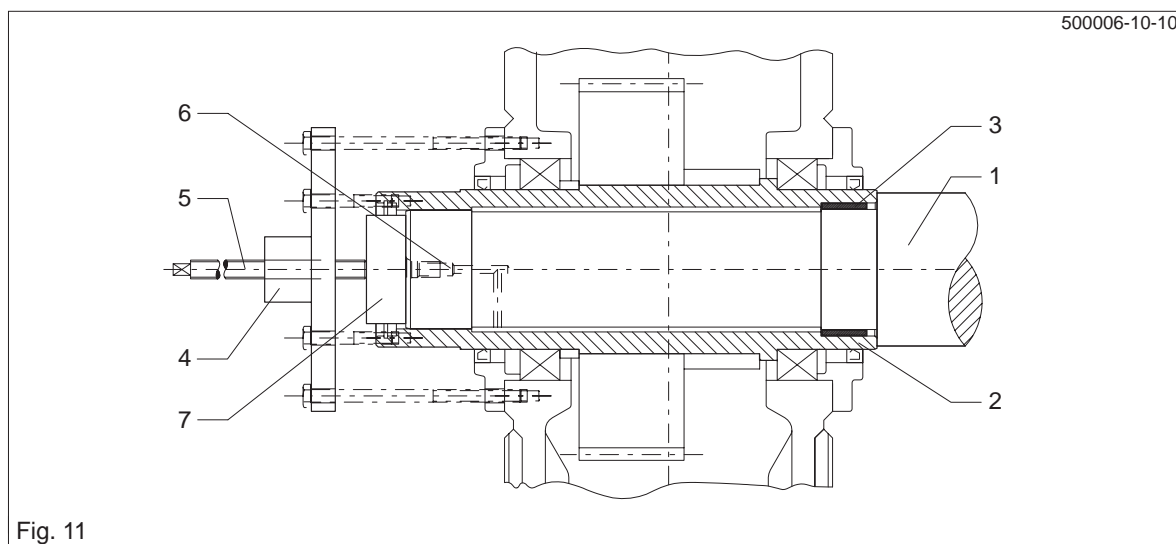

Fig. 11
- If frictional corrosion has occurred on the seating surfaces, inject rust-releasing or other agent (e.g. with a pump) into the bore cavity to reach the seats. The rust releaser can be injected through a bore in the machine shaft (see fig. 11).
- When the rust-releasing agent has taken effect, pull the gear unit off with the device as shown in figs. 11 or 12.
If the counterforce is provided not only by the hollow shaft, but also by the housing, as shown in fig. 11, the forces used must not exceed the values given in the following table.